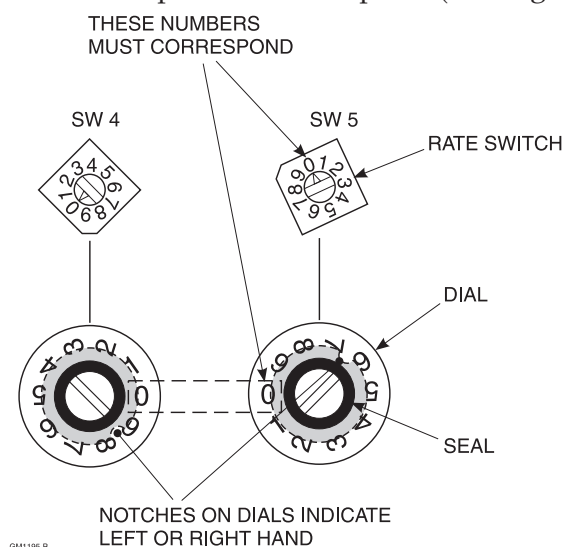

Figure 4-3 Orientation of dials and rate switches
1. Fit the two rate dials (items 11 and 12), on the rate switches SW4 and SW5 (items 26). A rubber seal (item 10) must be fitted firmly into the groove, in each of the dials.
- b. Keeping the dials in the same relative position, insert the left-hand dial in SW4 and the right-hand dial in SW5. Ensure that the dial position and switch position correspond (see *Figure 4-3*).